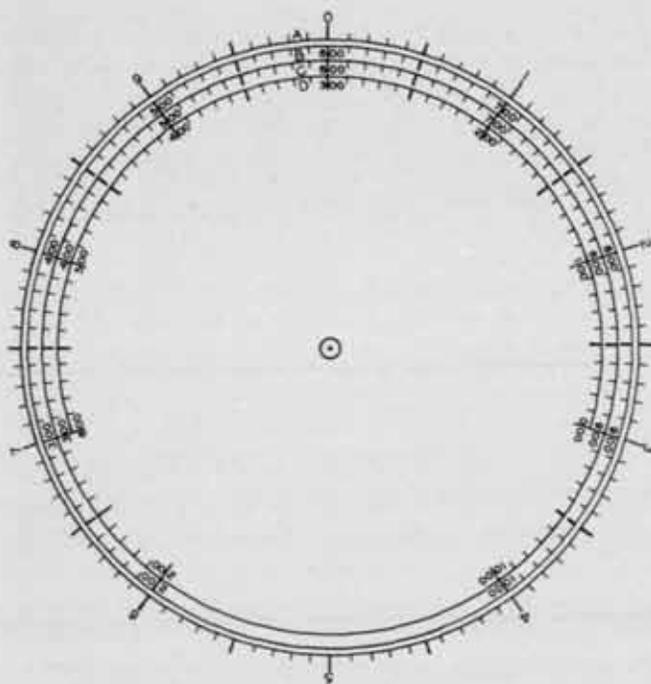
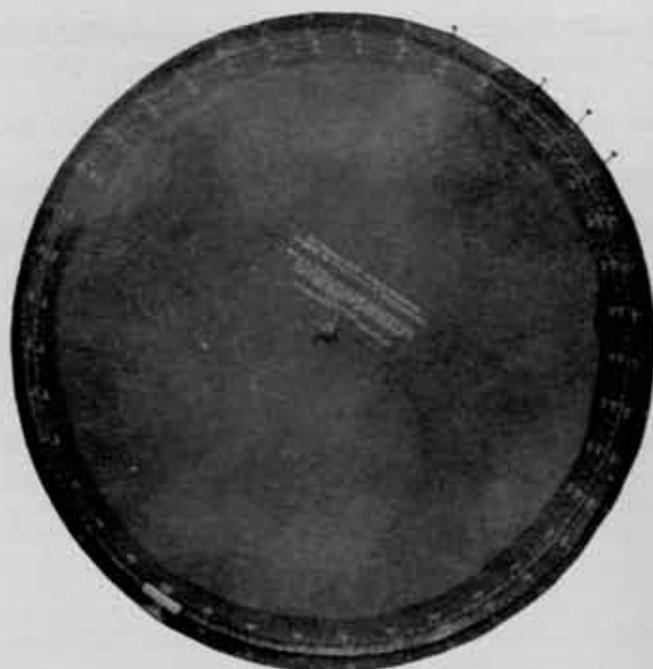

Figure 6: Set forward point azimuth computer
Figure 7: Set forward point azimuth computer graduated in mils
*General Description.* The sketch shown in Figure 6 illustrates the arrangement of the scales for this device when prepared for use with degrees and Figure 7 is a photograph of the device as prepared for using mils in the measurement of azimuth. It consists of a base
After the base disc has been prepared another disc is cut from heavy cardboard with diameter equal to that of the circle of scale A. This disc carries a scale B graduated as shown in Figure 6 when using degrees and graduated in a similar manner for mils except that the normal is 300 instead of 6.00. A third disc with diameter one-half inch less than disc B is prepared from light or medium cardboard and is graduated in a manner similar to that shown in Figure 6 for degrees, and in a similar manner, except that the normal is 300, for mils. These three discs are fastened together at the center with a bolt and lock nut so that the two top discs will rotate together until pressure is applied to make them rotate independently. Scales C and D are both drawn on the top disc. Scale D is intended for arbitrary lateral corrections and is graduated counter clockwise so that the old familiar rule of "right raise and left lower" will apply. All scales should be given a